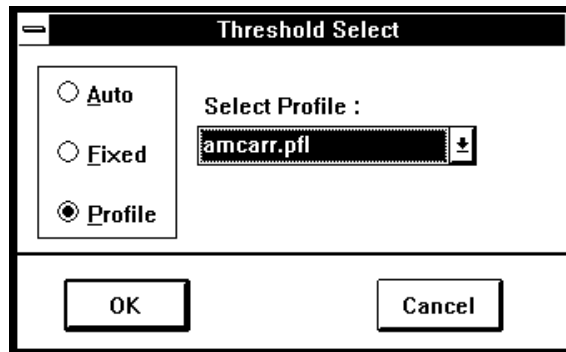

Figure 6-30: Threshold Select Dialog Box
12. If you wish to change the default threshold assignment for a selected measurement then click on **T**hreshold to open the **Threshold Select** dialog box (Figure 6-30).